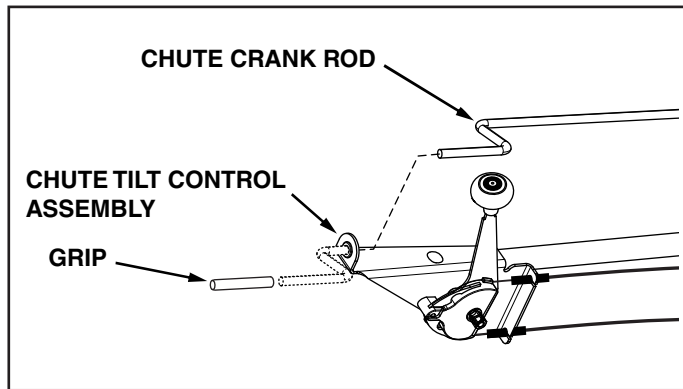

FIGURE 51 **RIGHT SIDE VIEW**
STEP 52: (SEE FIGURE 51)
- Position the crank rod spiral (see figure 51) so that it does not rub against the bottoms of the notches in the chute flange. **Tighten** the nuts.